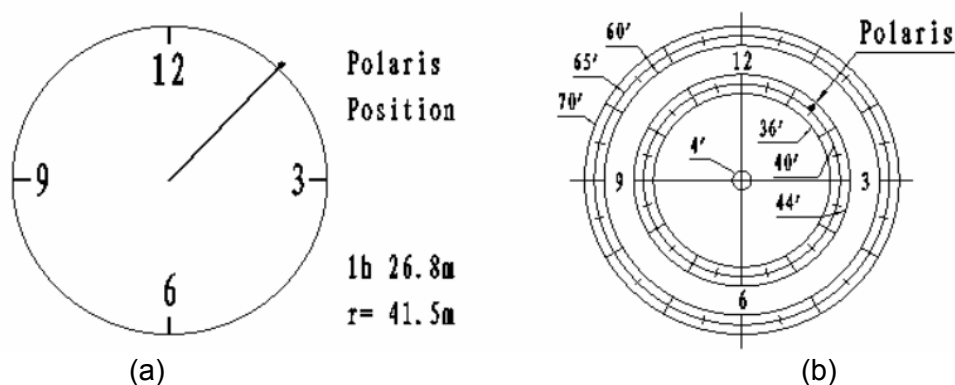

Figure 17. Polaris Position shown on HC (a) and where to put on polar scope dial (b)
- (3) Turn on the mount power by pressing the **On/Off** switch on the main unit. Make sure that the time and site information of the hand controller is correct. Press the **MENU** button, then select "**Align**" and "**Pole Star Position**" to display the current Polaris position. For example, on May 30, 2010, 20:00:00 in Boston, United States (Lat N42°30'32" and Long W71°08'50", 300 min behind UT, DST set to Y), the Polaris Position is 1hr 26.8m and  $r = 41.5m$ , as shown in Figure 17 (a).
- (4) Look through the polar scope to find the Polaris. Using Azimuth Adjustment Knob and Latitude Adjustment Knob to adjust the mount in altitude and azimuth directions and put the Polaris in the same position on the Polar Scope Dial as indicated on the HC LCD. In this case, the Polaris will be located at a radius of 41.5' and an angle of 1 hour 26.8 minute, as shown in Figure 17 (b).